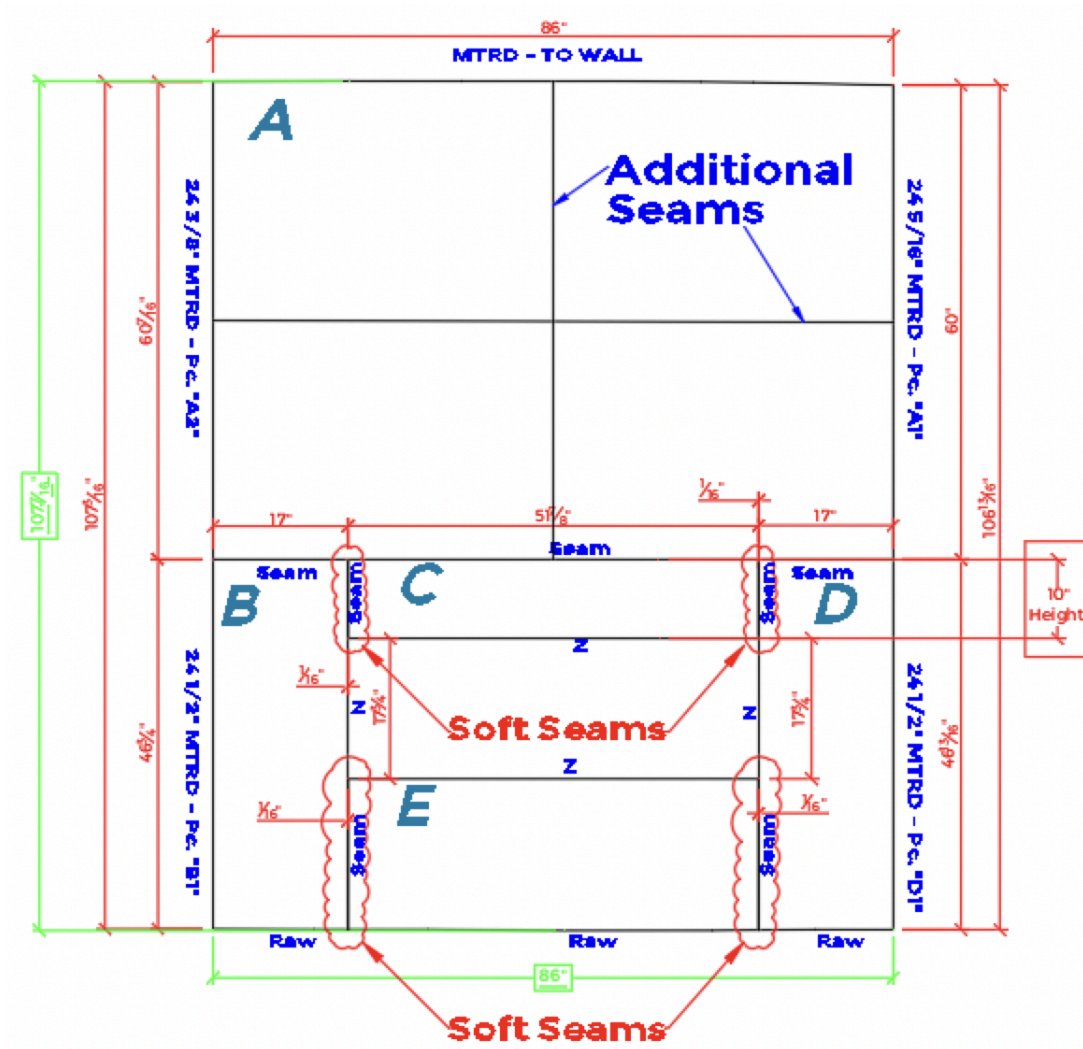

Figure 8
17. Additional soft seams may also be incorporated into the fireplace application to replace any existing adhesive seams, for visual symmetry or to allow for any anticipated movement of the fireplace application while in use. **See Figure 8.**